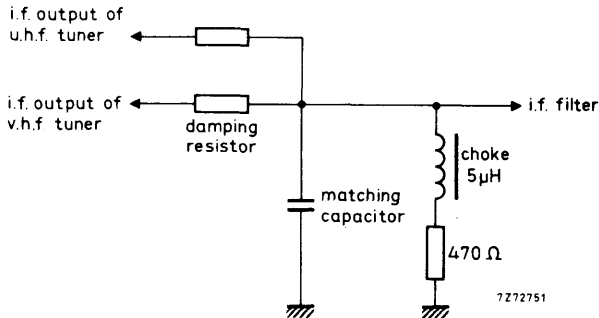

Fig. 12.
The tuner needs a d.c. path from the i.f. output terminal (T) to earth, preferably via a choke of approx.  $5\ \mu\text{H}$  outside the tuner (Fig. 12). Where the tuner is used in combination with a u.h.f. tuner, this choke can be common for both tuners; a resistor in series with the choke can make ineffective the i.f. output circuit of the switched-off tuner. For damping the i.f. output circuit and matching the i.f. output impedance of the tuner to the i.f. amplifier, a series resistor and a parallel capacitor as shown in Fig. 12 should be used (During v.h.f. operation the voltage across the  $470\ \Omega$  resistor is 1 to 1,2 V.)